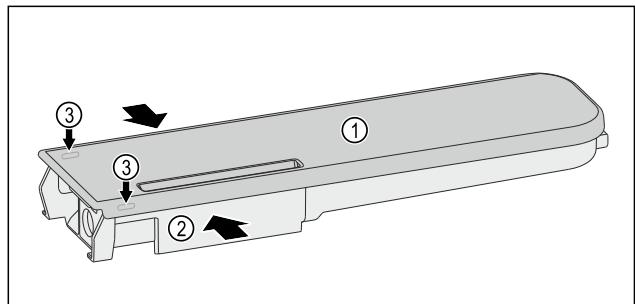

Fig. 159
- ▶ Push the water tanks Fig. 159 (2) together, leverage the cover Fig. 159 (1) carefully over the latching tabs Fig. 159 (3) and lift it up.
- ▶ Move the cover Fig. 159 (1) slightly forwards and back, and remove to the top.